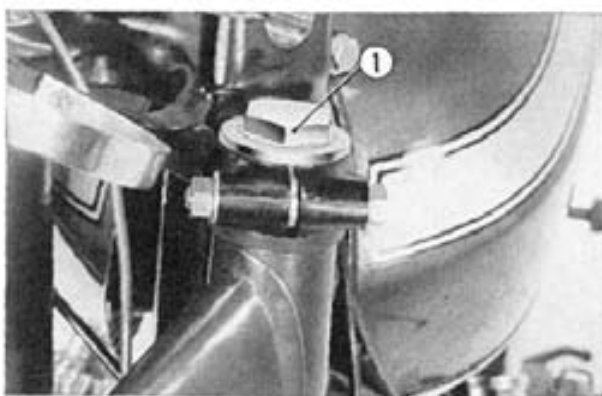

Fig. 19-17 ① Top filler plug
- b. Remove the top filler plug and fill the front fork with 7.0~7.3 ozs. (220~230 cc) of premium quality of SAE 10W-30 grade. (Fig. 19-17)
- (3) Check the following items and if there is any fault, correct before riding.